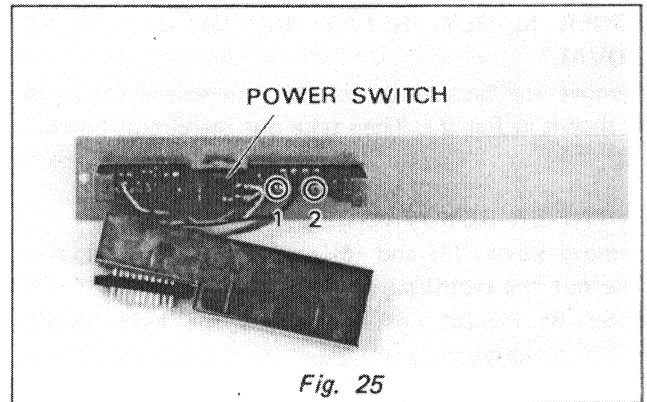
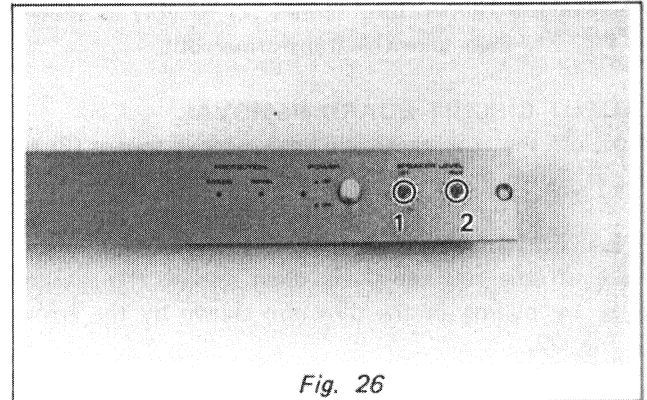

Fig. 25
Fig. 26
- Use the hexagonal wrench to remove the two speaker level control knobs from the panel. Remove screws (1) and (2) as shown in Fig. 25, then take off the LED circuit board.
- Pull off the power switch as shown in Fig. 25. Remove fixing nuts (1) and (2) as shown in Fig. 26, then take off the level controls.